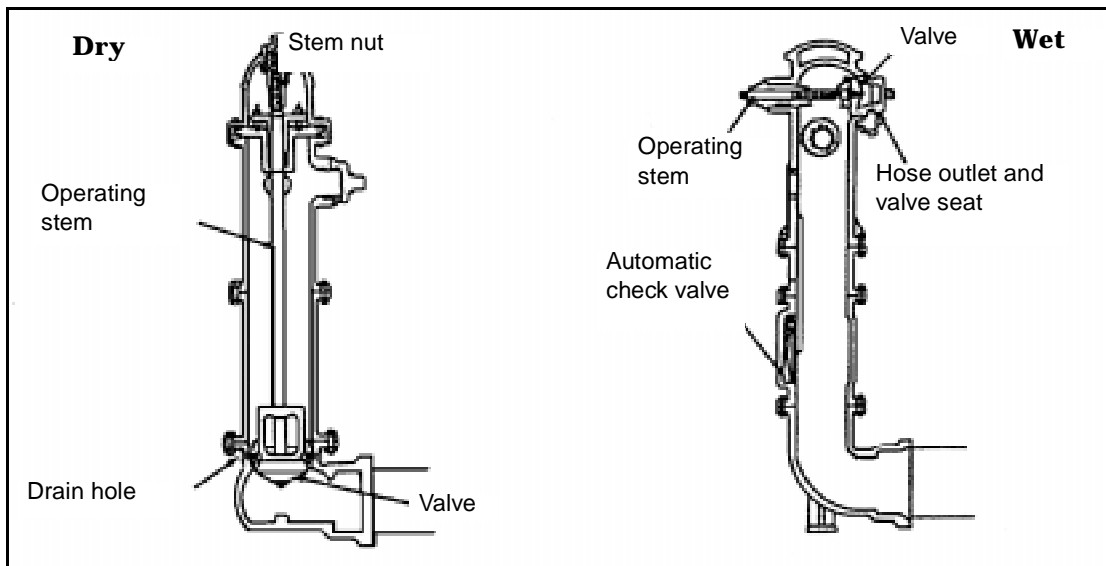

Figure 5-1. Fire Hydrants
**5-22.** A dry-barrel-type hydrant (Figure 5-1) is used in areas that are subjected to freezing temperatures. A valve is located below the freeze line and is opened with the pressure or against the pressure. After it has been opened and closed, any remaining water in a closed dry-barrel hydrant will drain through a valve at the bottom of the hydrant.
**5-23.** A wet-barrel-type hydrant (Figure 5-1) is used in areas where temperatures are milder. This hydrant has either a compression-type valve at each outlet or one valve located in the bonnet to control the water flow to all outlets.